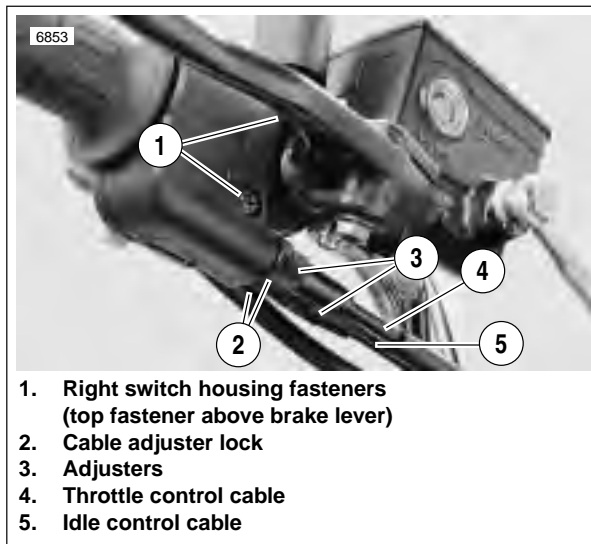
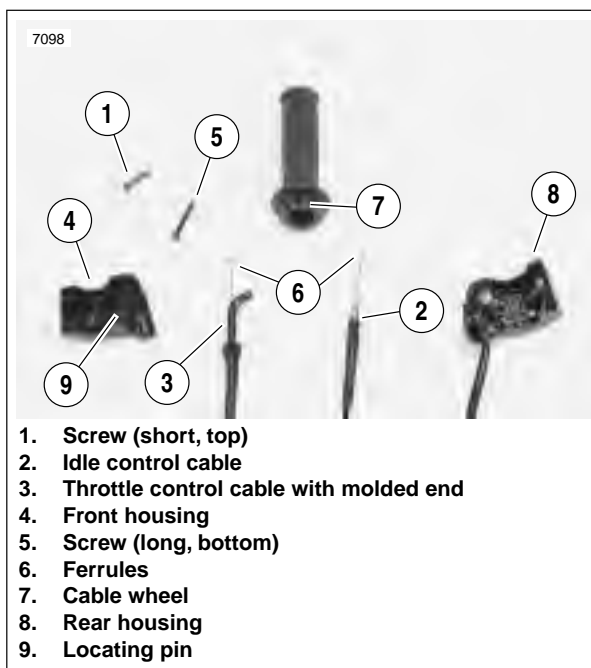

Figure 2-95. Throttle Control Cables
Figure 2-96. Cable Connections
2. See Figure 2-95. Loosen cable adjuster lock (thick disc) (3) on each cable.
3. Turn adjusters (3) in direction which will shorten cable housings to minimum length.
4. Remove fasteners (1) on right switch housing and separate housing from handlebar.
5. See Figure 2-96. Remove cables (2, 3) from notches in front housing (4).
6. Remove cables (2, 3) and ferrules (6) from cable wheel (7).
3. Install throttle grip and position ferrules (6) into cable wheel (7).
7. See Figure 2-95. Attach rear switch housing and position housings on right handlebar by engaging locating pin on front housing with hole in handlebar. Attach housings with two fasteners, installing longer fastener on bottom. Tighten to 25-33 **in-lbs** (3-4 Nm).